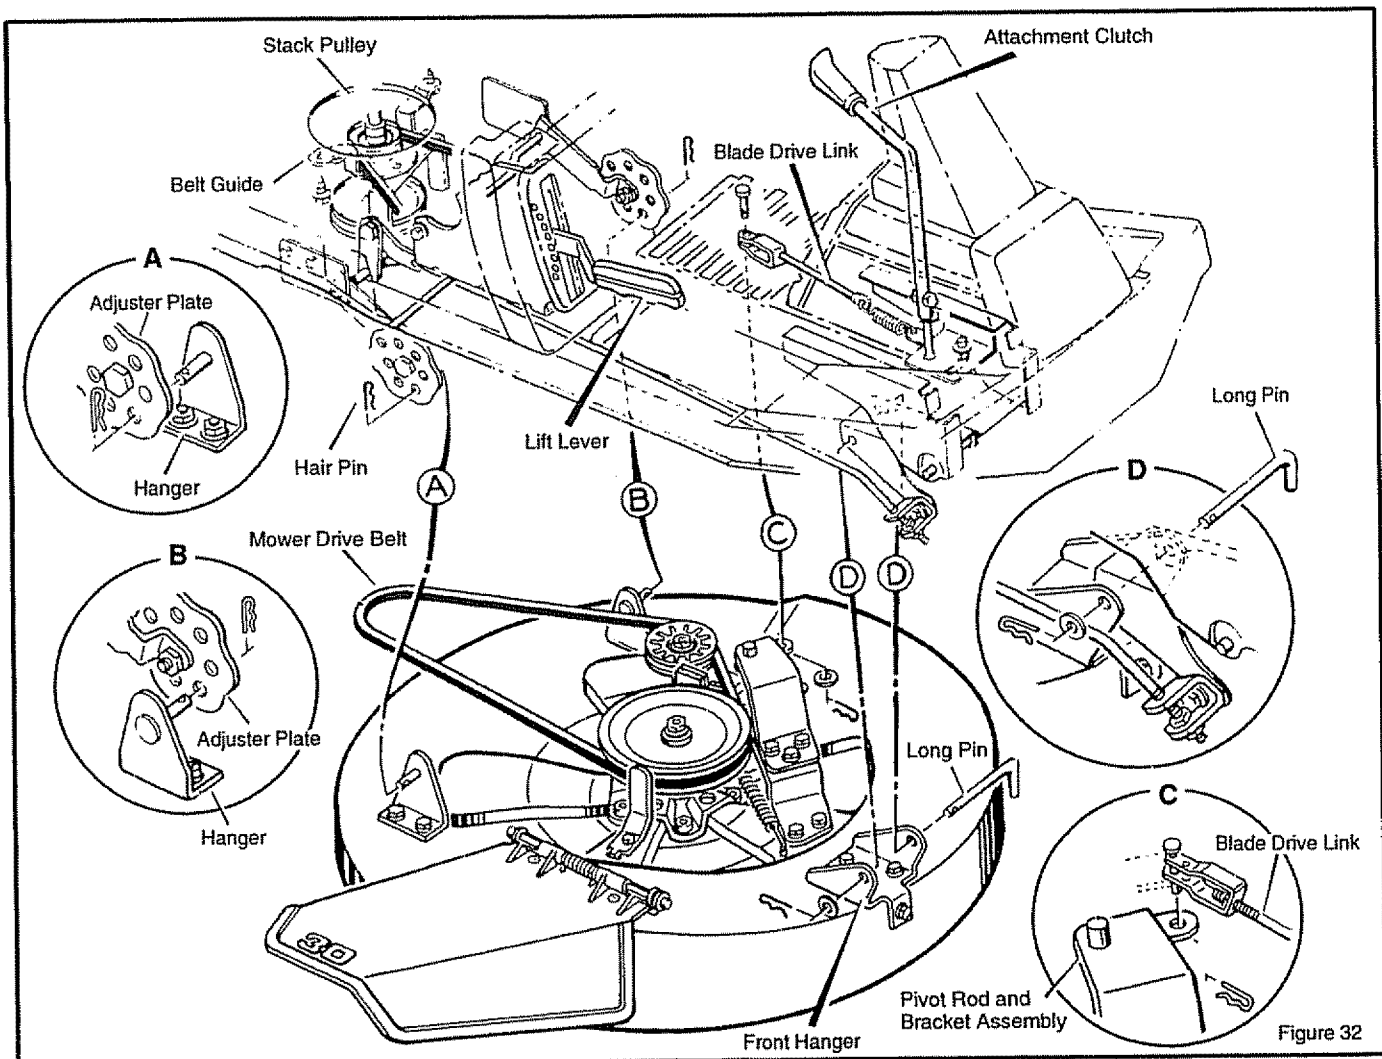

Figure 32
2. Move the **attachment clutch** to the DISENGAGE position (Figure 32).